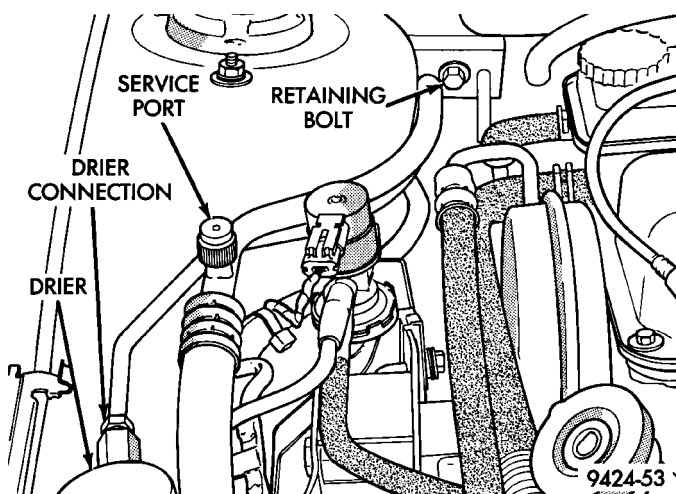

Fig. 43 Bolt Removal
- (1) Using a R-134a refrigerant recovery machine, remove the refrigerant from A/C system.
- (2) Remove retaining bolt at expansion valve (Fig. 43).
- (3) Remove line at drier.
- (4) Remove line at compressor.